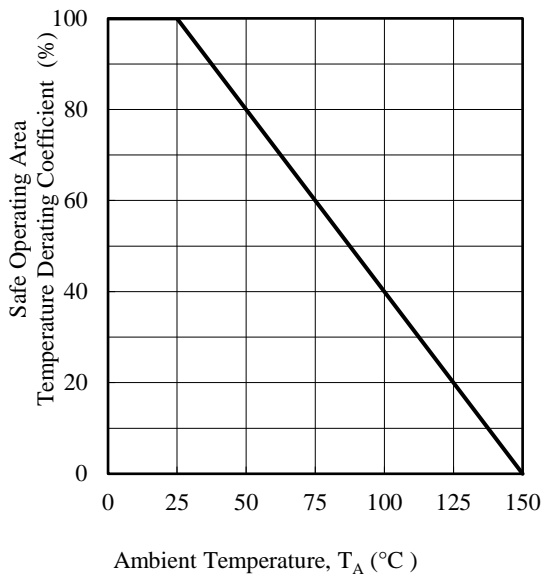

Figure 4-1. SOA Temperature Derating Coefficient Curve
- When the IC is used, the safe operating area curve should be multiplied by the temperature derating coefficient derived from Figure 4-1.